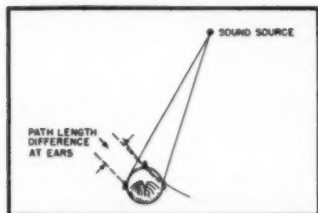

Fig. 1. Difference in path length and time of arrival when sound source is not in median plane.
1. Referring to Fig. 1 it will be seen that a sound from a source on the right side will strike the right ear before the left ear, the time difference being a maximum when the source is on one side and in line with the two ears. In this position the time difference is .00063 sec corresponding to an ear separation of 21 cm.